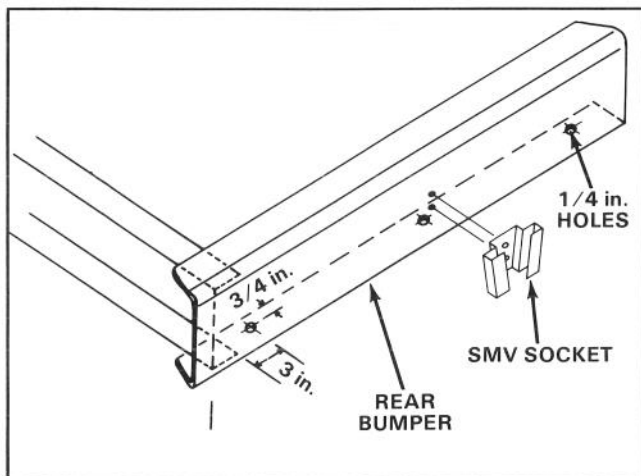

Figure 10
1. On the lower flange of the rear bumper, measure approximately 1 in. away from the side frame and 3/4 in. in rearward on the bumper flange on each side and center punch each location (Fig. 10).
2. Measure 3/4 in. inward on the bumper flange in approximate center of the bumper and center punch the location (Fig. 10).
3. Drill 1/4 in. holes in all three locations (Fig. 10).
1. Locate the center of the back of the rear bumper. Place the SMV socket over the location and center punch and drill the two SMV mounting holes with a 5/16 in. drill (Fig. 10).
2. Secure SMV socket to the bumper with two (2) 5/16 x 1-1/4 in. carriage bolts and 5/16 nylon lock nuts (Fig. 10).